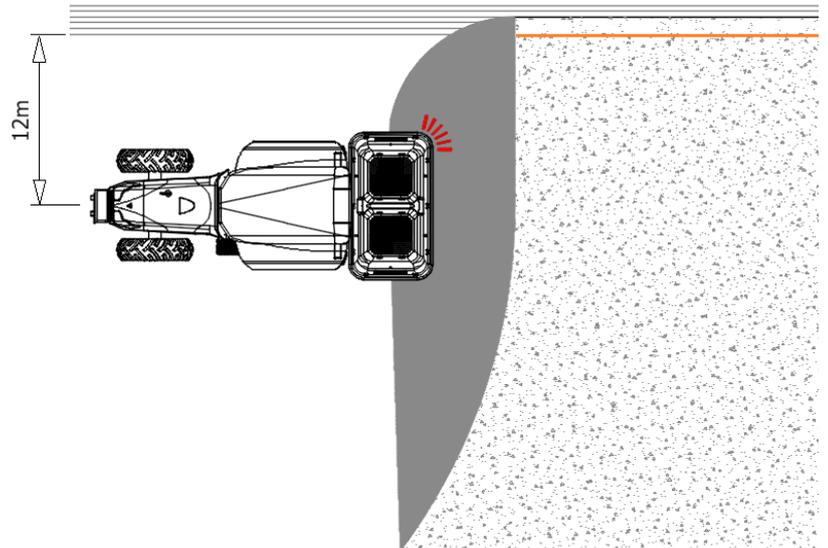

Figure 6.12 - Spreading - limitation "to the border"
If you want to limit the spread to complete half of the spreading scheme (Figure 6.12), limitation "to the border", you should proceed as follows:
- Move the tractor 12 metres away, from its centre to the border, as shown (Figure 6.12),